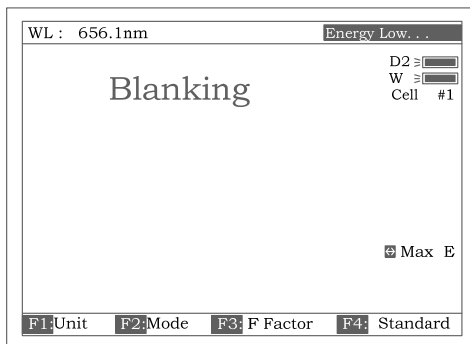

Fig 8
Note: 1. If the reference solution is too thick, “Energy Low...” will appear following the “Blanking...” on the screen (Fig 8). If “Energy too Low...” appears following the “Blanking...”, the test will be paused and “Warning...” will appear on the screen. (Fig 9).
2. If no automatic changer installed “cell #1” and “Max E” will disappear in Fig 8.